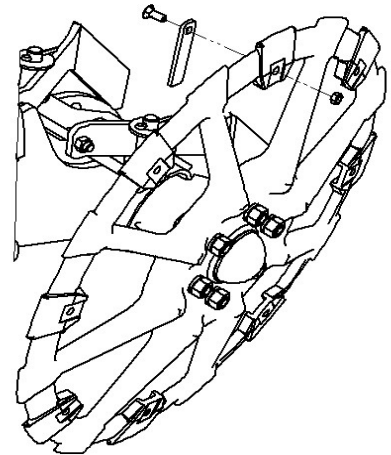

Figure 7-12: Adding or Removing Rim-Mounted Filler Tabs
2. Fasten with a bolt and nut as shown in Figure 7-12.